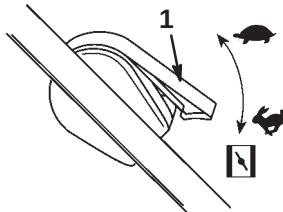

**Figure 7**
1. Ensure that the wire is connected to the spark plug (Fig. 7).